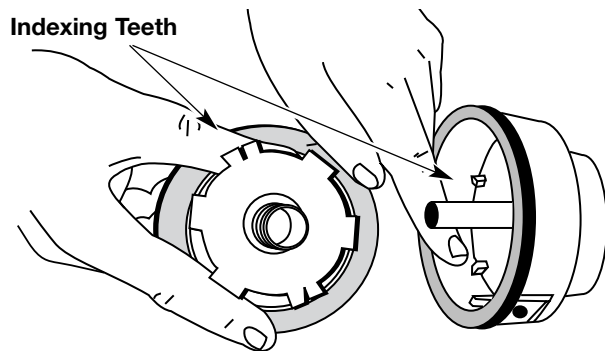

Figure 20
- Check the indexing teeth on the inner reel and outer spool for wear. If necessary, remove burrs or replace the reel and spool. See Figure 20.